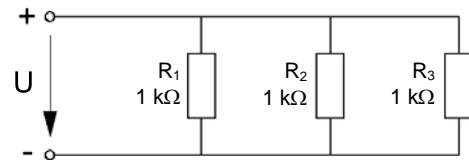

Fig. 3.2.3.2: Parallel circuit of three $1\text{ k}\Omega$ resistors
- What is the power dissipation of the circuit in Fig. 3.2.3.2, when the input voltage applied is 15 V ? For the calculation, use only voltage and resistance.
- Assemble the circuit of Fig. 3.2.3.2 on the Board. Use the fixed voltage source of $U = 15\text{ V}$. Measure the currents in the resistor branches R_1 to R_3 . Calculate the total current.